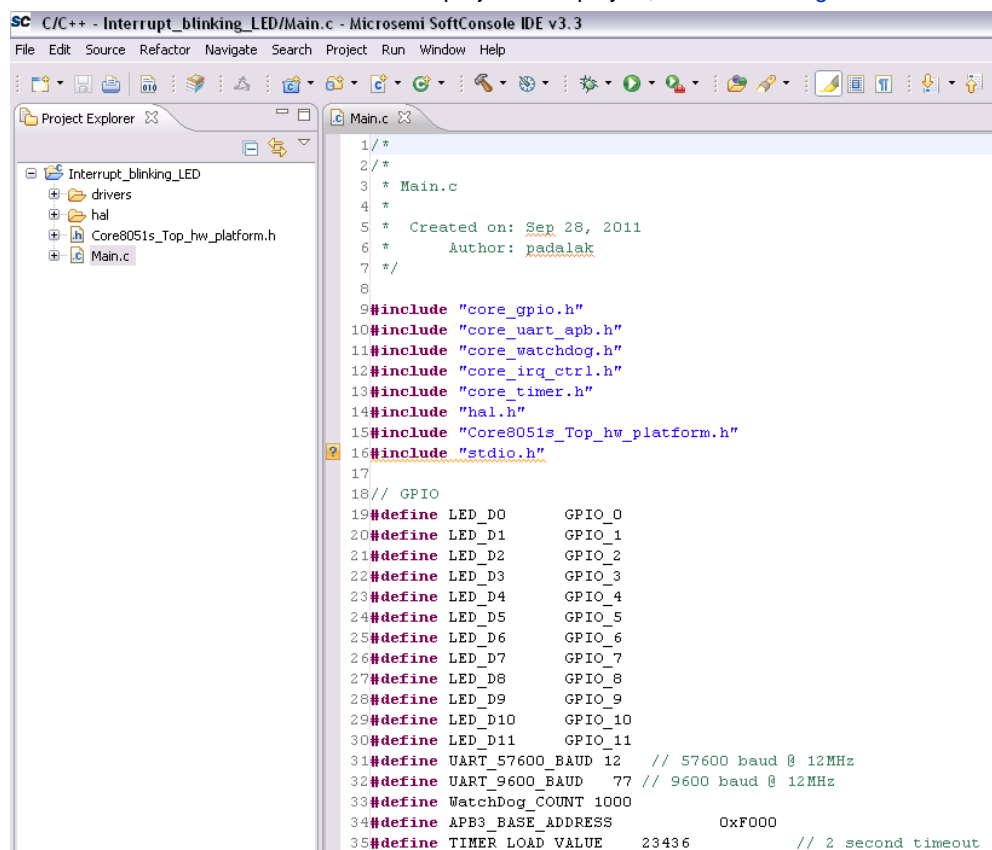

Figure 28 SoftConsole Project with the Source File
13. Save **Main.c** file. The SoftConsole project is displayed, as shown in Figure 28.